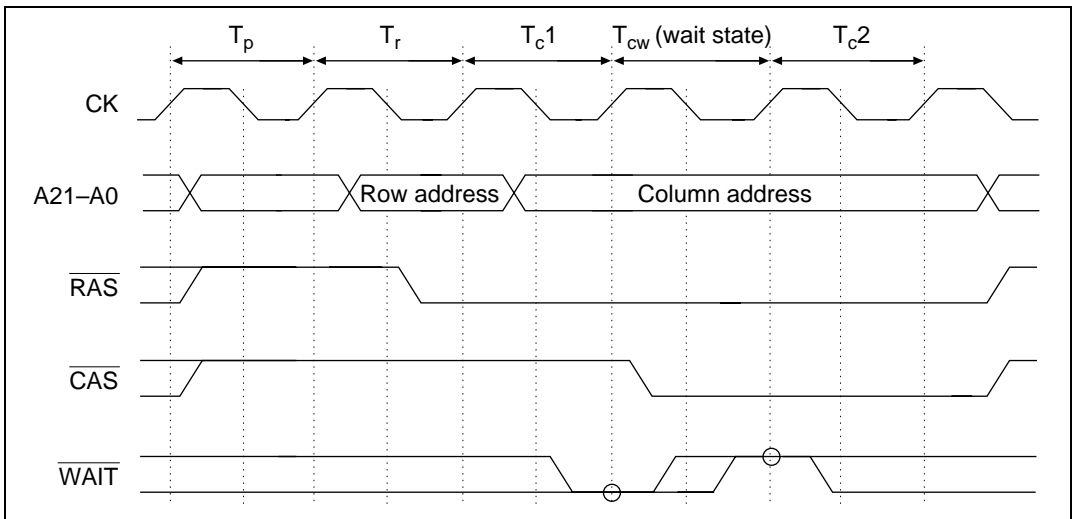

Figure 8.20 Wait State Timing during DRAM Access (Long Pitch)
Control of Insertion of Wait States Using the $\overline{\text{WAIT}}$ Pin Input Signal: The number of wait states inserted into the DRAM access cycle can be controlled by setting WCR1 and WCR2. When the corresponding bits in WCR1 and WCR2 are cleared to 0, the column address output cycle ends in 1 state and no wait states are inserted. When the bit is 1, the $\overline{\text{WAIT}}$ pin input signal is sampled on the rise of the system clock (CK) directly preceding the second state of the column address output cycle and the wait state is inserted as long as the level is low. When a high level is detected, it shifts to the second state. Figure 8.20 shows the wait state timing in a long pitch bus cycle.